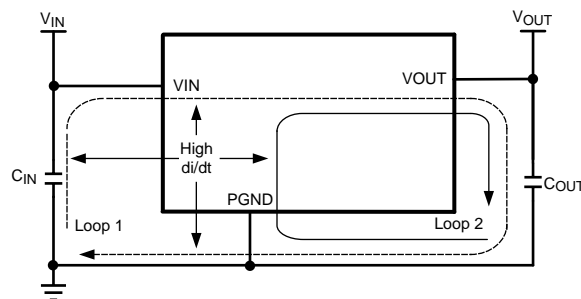

Figure 52. High Current Loops
From an EMI reduction standpoint, it is imperative to minimize the high di/dt paths during PC board layout as shown in Figure 52. The high current loops that do not overlap have high di/dt content that will cause observable high frequency noise on the output pin if the input capacitor (C_{IN}) is placed at a distance away from the LMZ12008. Therefore place C_{IN} as close as possible to the LMZ12008 VIN and PGND exposed pad. This will minimize the high di/dt area and reduce radiated EMI. Additionally, grounding for both the input and output capacitor should consist of a localized top side plane that connects to the PGND exposed pad (EP).